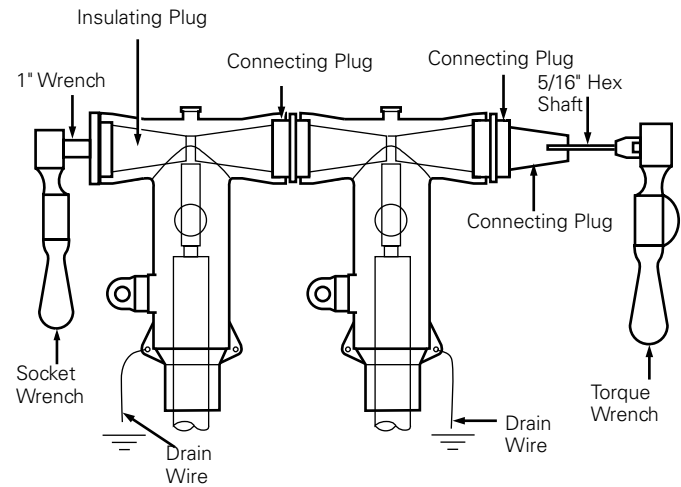

Figure 32. Installing to connecting plugs.
- Repeat the previous assembly procedures for each additional splice tap. (Refer to Figure 32.)